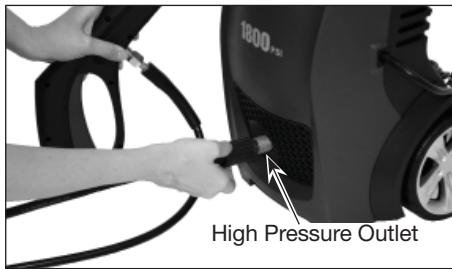

Figure 16 - Attach high pressure hose to high pressure outlet (model PW1825 only)
10. Attach high pressure hose to high pressure outlet (see Figure 16).